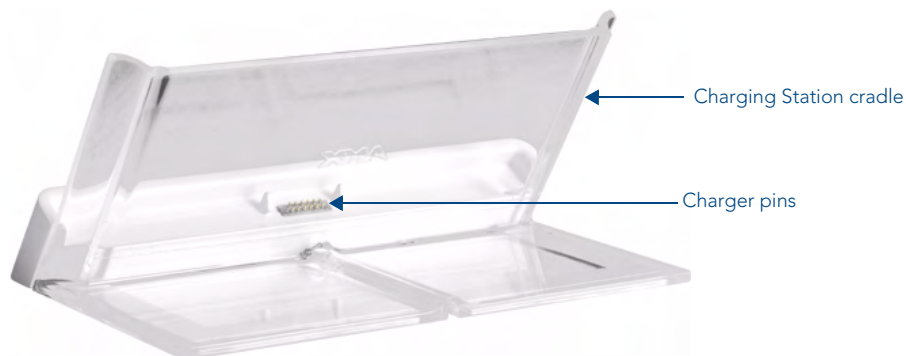

FIG. 5 MVP-TCS-52-GW Table Charging Station - Rear
4. Place the touch panel in the Charging Station cradle, guiding it into place with the locking grooves on each side of the cradle. When fully seated, the touch panel's charging station connector should be in contact with the Charging Station's charger pins (FIG. 5).
To recharge the touch panel, slide the device into the Table Charging Station cradle bottom-first and make sure the device is fully seated in the Charging Station. The charger pins in the bottom of the cradle (FIG. 5) must be in contact with the connector on the bottom of the touch panel for it to start recharging. The touch panel will stop recharging automatically once the battery has achieved its maximum charge.